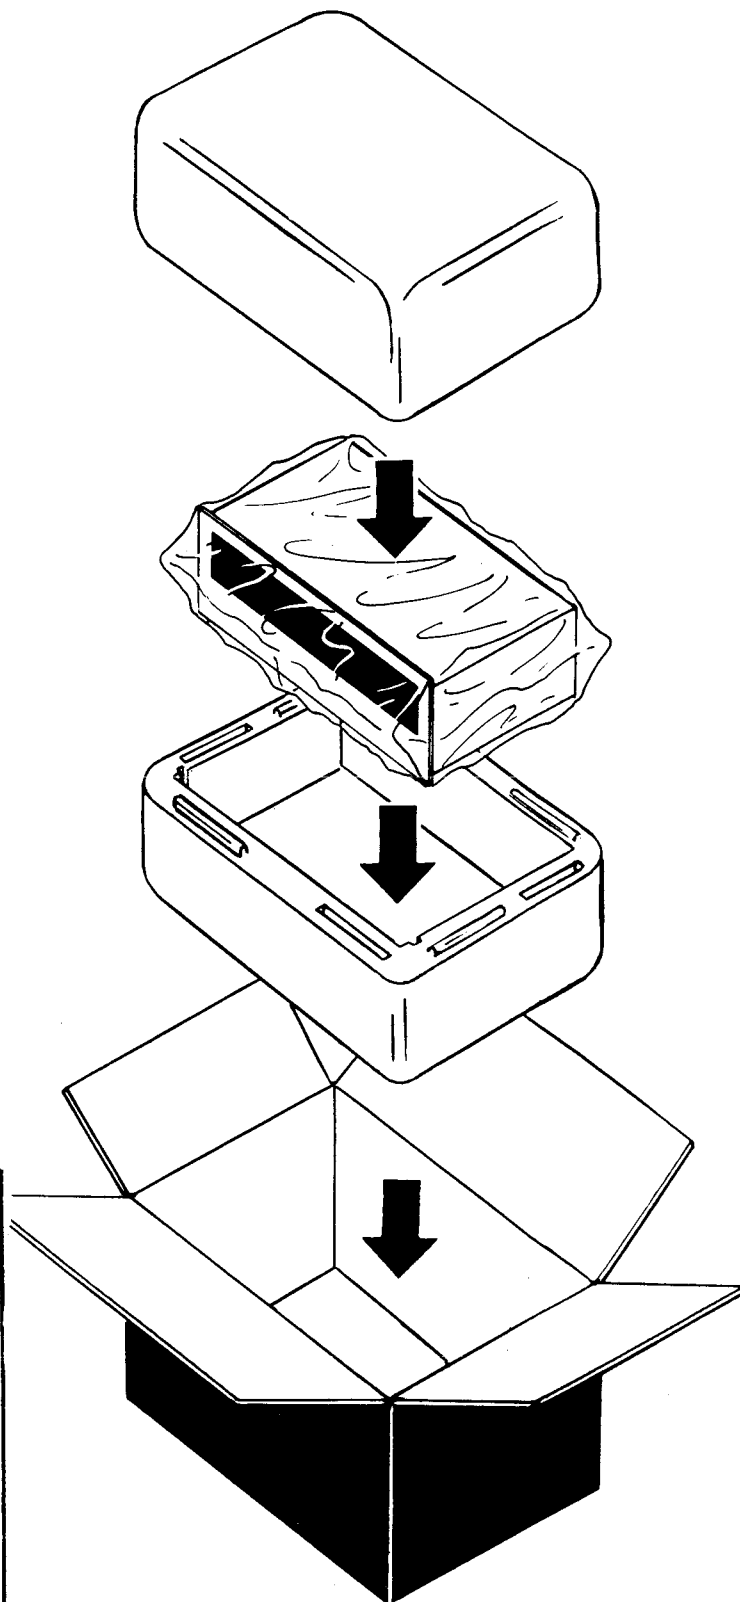

Figure 8. Repacking Diagram
- B. Pack the unit carefully, using the original material as shown in Figure 8.